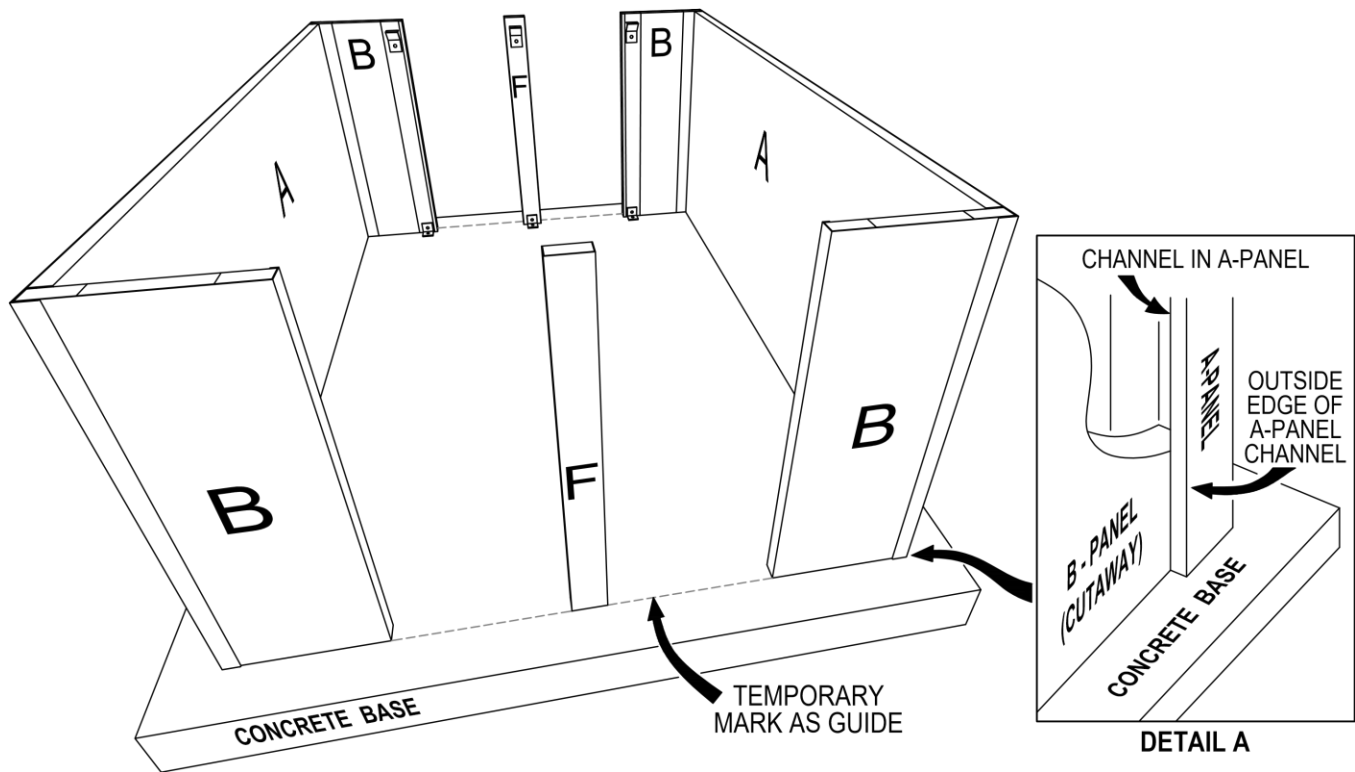

FIG. 1
4. Assemble the “B-A-B” (corner-end-corner) assemblies through the holes provided using Hex Head Screws. (For best results, insert a bead of silicone caulk into the inside bend of the “A” panel corners.) Set them on the marked concrete base (Fig. 1).